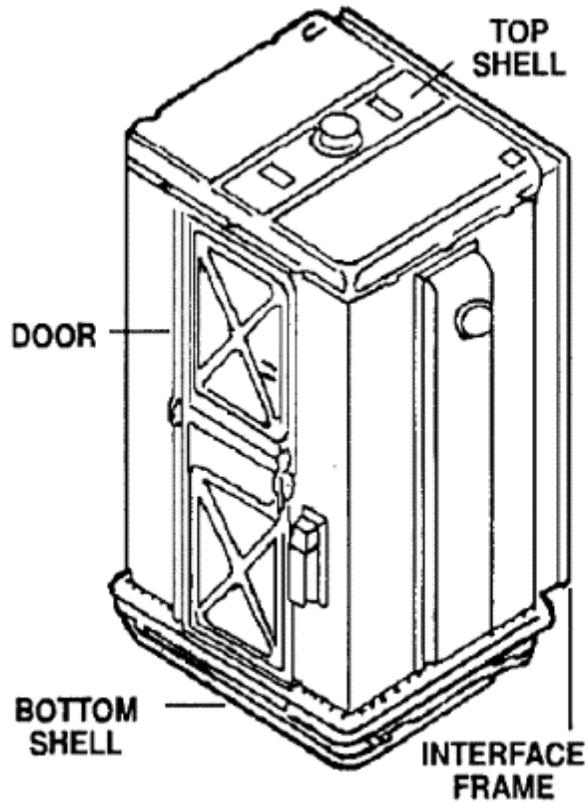

Figure 6-8. M12 protective entrance.
**Single air lock.** In most cases, vans and shelters modified for collective protection use a single-compartment protective entrance. An example is the M12 protective entrance (Figure 6-8). This variation consists of the clean shelter area and an air lock (Figure 6-9). Before entering the air lock from a contaminated area, personnel must remove their MOPP gear except gloves and mask. Minor exposure to chemical agent vapor is possible between overgarment removal and entrance into the air lock. Clothing tends to absorb any chemical agent vapor in the atmosphere during this brief exposure. The amount of agent absorbed depends on agent concentration in the atmosphere, length of exposure, type of agent, type of clothing exposed, and climatic conditions. The air purge in the air lock flushes out the contaminated air brought in. It also reduces the amount of absorbed agent on clothing before the soldier enters the protective shelter. After a soldier and/or piece of equipment enters the protective shelter, monitoring ensures hazardous levels of agent were not carried inside.